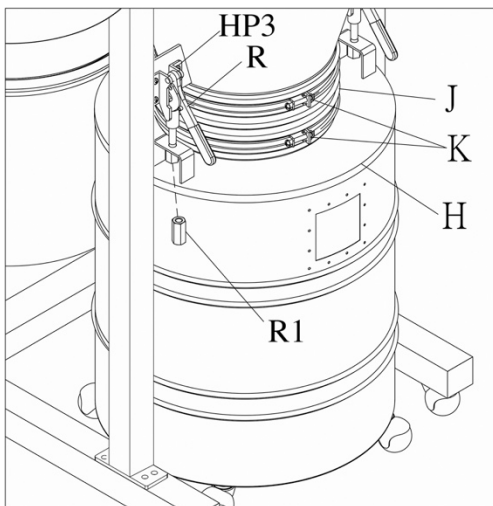

Figure 12
17. Install quick levers (R) into threaded holes on cone flanges, using screws (HP3). See Figure 12
18. Install hose (J) onto cone and drum lid and secure with two hose clamps (K) at top and bottom. See Figure 12.
21. Pull down both quick levers (R, Figure 12) then assemble drum lid (H, Figure 12) to quick levers. Tighten long nut (R₁, Figure 12) onto each quick lever.